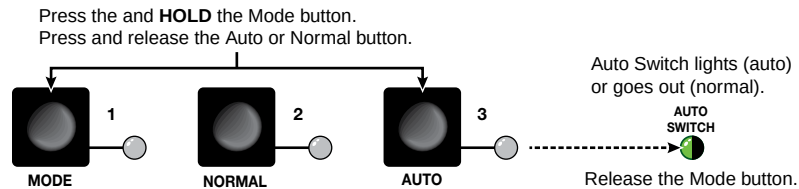

Figure 10. Selecting a Mode
1. Press and hold the Mode (Input 1) button (see figure 10).